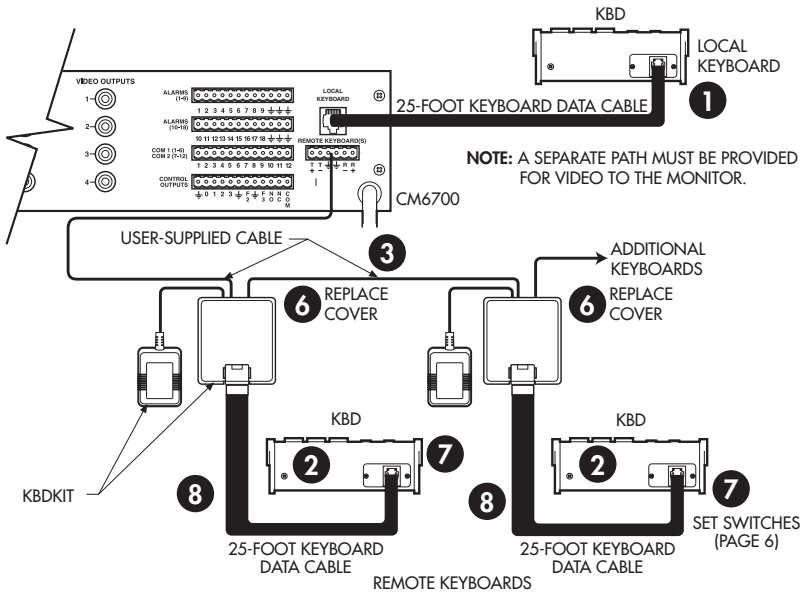

Figure 2. Keyboard Cabling Diagram
- 1 Use the data cable that is supplied with the keyboard. Plug one end of the cable into the RJ-45 connector on the rear of the keyboard and the other end into the LOCAL KEYBOARD port on the SCU (refer to Figure 2). Set the keyboard address according to Table B on page 6.
Refer to Figures 2 and 3 for the following steps.
- 8 Plug in all keyboard data cables according to Figure 2.